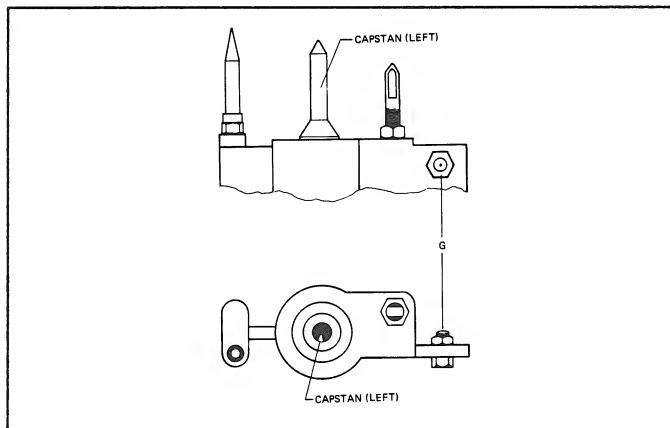

Fig. 3.4
- If the set screws are readjusted, it is necessary to subsequently loosen the centering screw [G] in the double capstan carrier (Fig. 3.4).